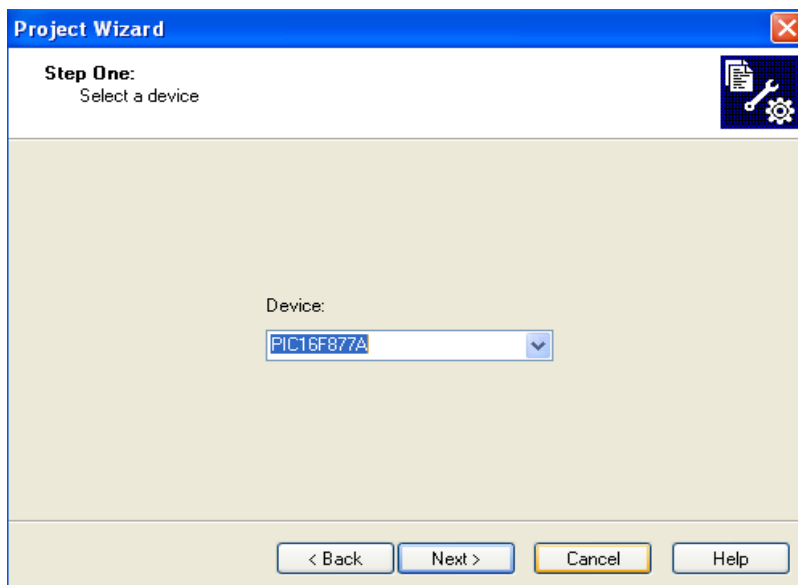

Figure 3 Project Wizard Window
Step 4: Now to create a project, click **Project -> Project Wizard** then click “Next”, the window in (Figure 3) will appear